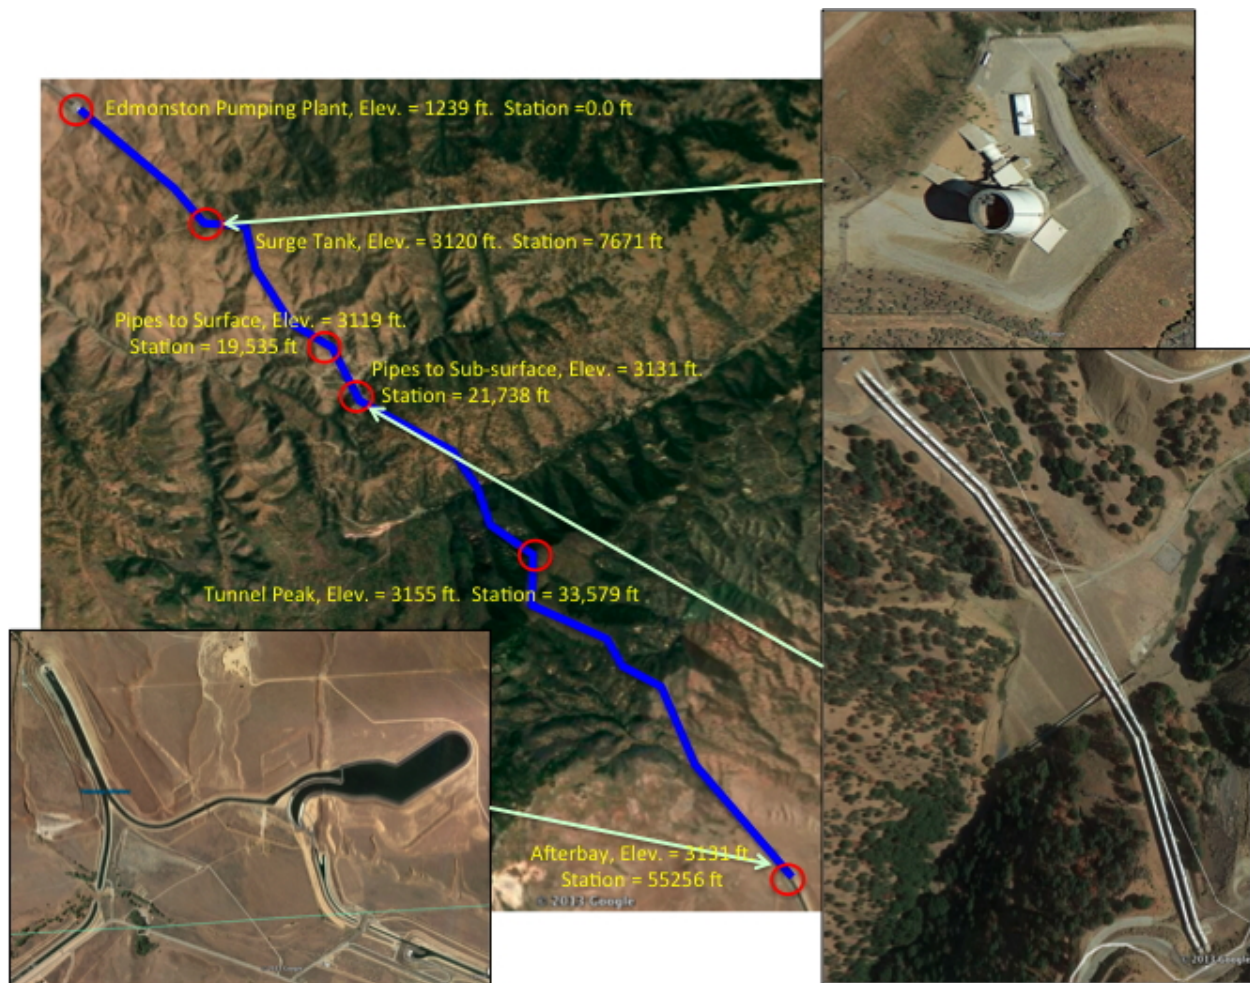

Figure 9: Aerial images of Tehachapi Mountains, California; showing the lift system for the California Aqueduct.
16. Figure 9 is a collection of annotated images of the Edmonston Pumping Plant and pipeline/tunnel system at the southern end of the California Aqueduct. The 10+ mile system lifts water from the Edmonston forebay at elevation 1239 feet to the Tehachapi afterbay at elevation 3131 feet for subsequent distribution to various parts of southern California.